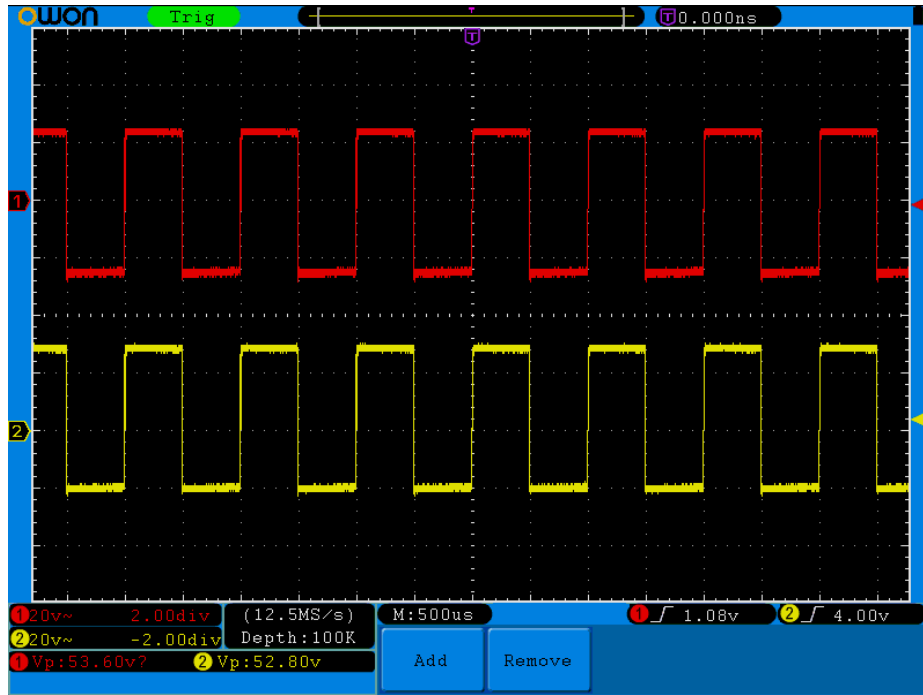

Fig.6-2 Waveform of Gain Measurement
- (1) Push down the **Autoset** button and the oscilloscope will automatically adjust the waveforms of the two channels into the proper display state.
- (2) Push down the **Measure** button to show the Measure menu.
- (3) Press the **H1** button.
- (4) Press the **F2** button and choose **CH1**.
- (5) Press the **F1** button and turn the **M** knob to choose **PK-PK**.
- (6) Press the **F2** button and choose **CH2**.
- (7) Press the **F1** button again and turn the **M** knob to choose **PK-PK**.
- (8) Read the peak-to-peak voltages of Channel 1 and Channel 2 from the bottom left of the screen (See **Fig.6-2**).
- (9) Calculate the amplifier gain with the following formulas.